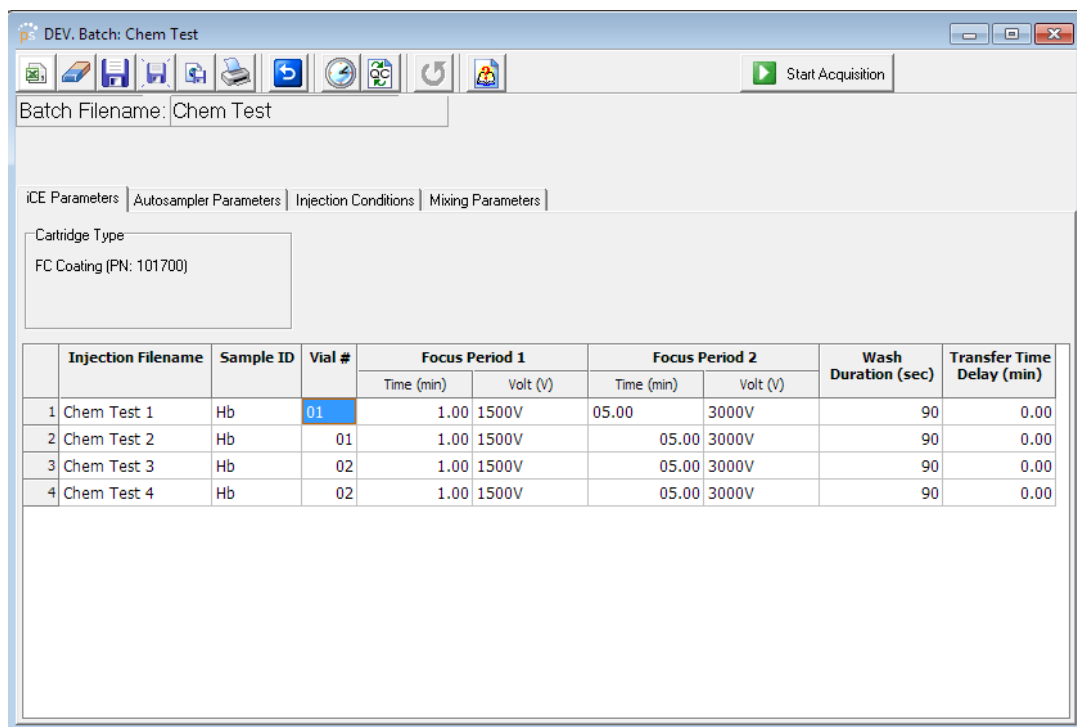

Figure 6-23: Example of a completed iCE Parameters table using four injections from two vials.
17. When all the information has been entered, you can move on to the next tab. An example of a completed iCE Parameters table is shown in Figure 6-23 and includes four separate injections from two individual vials: